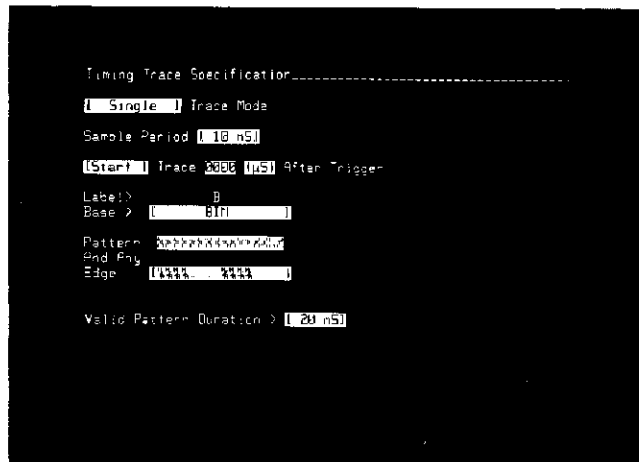

Figure 3-15. Triggering On A Pattern And Edge Transition
- 7 If there is a dot in the field where you positioned the cursor, press the NEXT[] key one time to obtain the rising-edge arrow If there is an N/A (not available) notation in this field, you will have to return to the WFORM display and select new channels, a different one with a low-to-high transition and two other channels that are high, if required Edge recognition is not available for all of the timing bits See figure 3-15